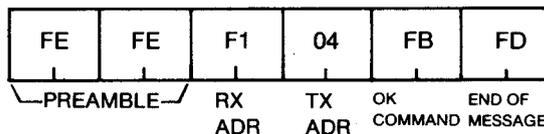

Fig. 28
- (1) The controller can set the mode of the IC-735. selecting the correct mode.
- (2) If the controller sends a packet as shown in Fig. 27, the IC-735 returns the packet shown in Fig. 28 after
- (3) If the receiving IC-735 is scanning, it changes mode and continues scanning, but no acknowledgement is sent.